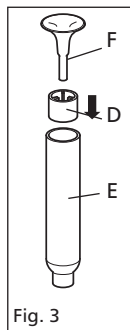

Fig. 3
- Locate the Bell Support (D) to the Bell Main Body (E) and push fully home.
- Position the Bell (F) to the Body Assembly and press into the central location. See fig 3.